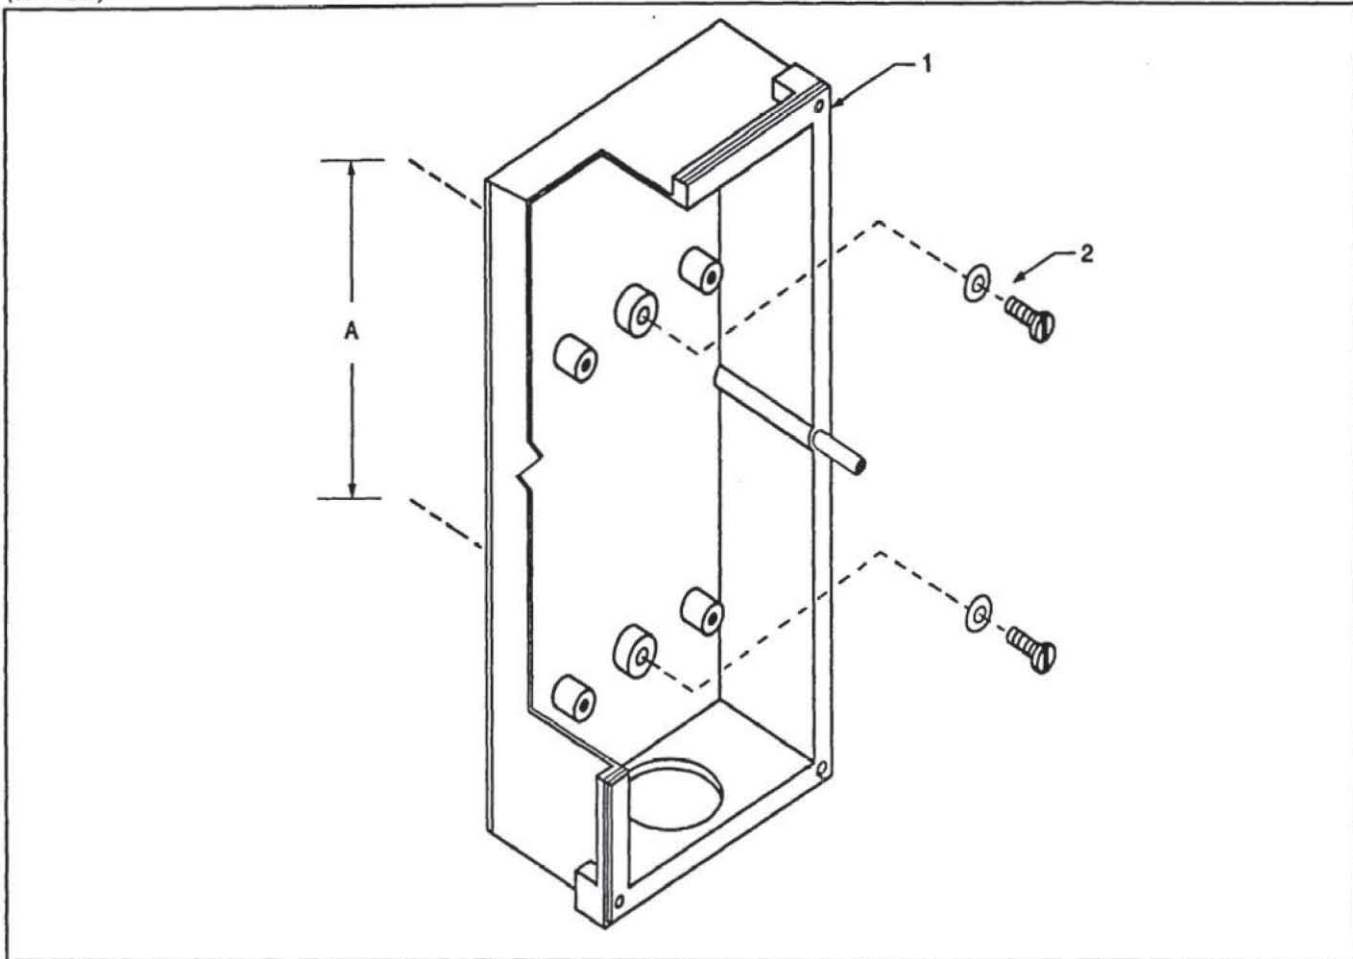

Figure 3.2 - Mounting PC40 to wall or machine surface
8. Use the two M4 x 25 mm screws, nuts, and washers provided to fasten the back enclosure to the mounting surface (Figure 3.2).